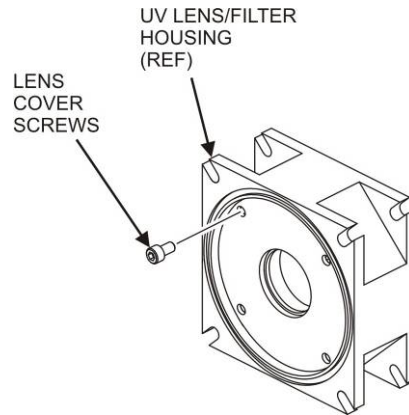
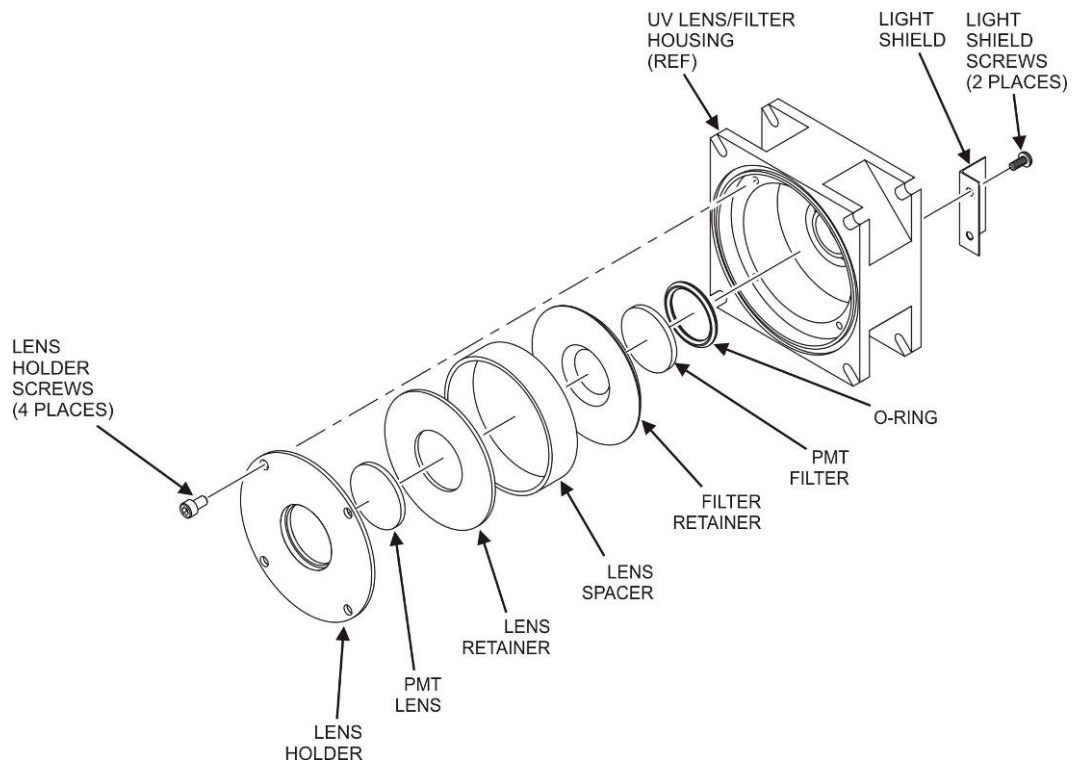

Figure 11-10: UV Lens Housing / Filter Housing
Figure 11-11: PMT UV Filter Housing Disassembled
10. Reassemble the lens/filter housing (refer to Figure 11-11 and Figure 11-10).